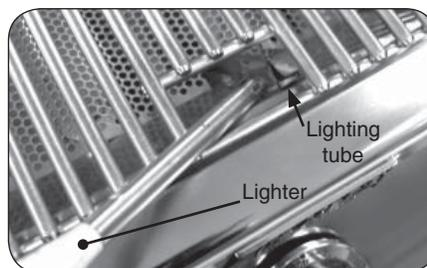

Fig. 15-2 - Manual lighting
2. Insert either a burning long-barrel butane lighter or a burning long-stem match through the cooking grid opening to the top of the lighting tube. (Fig. 15-2). For backburners, hold the flame against the surface of the backburner. For charcoal burners, hold the flame near the burner.
4. If the burner does not light, **immediately depress the knob and turn the valve to OFF**. **WAIT FIVE (5) MINUTES** before repeating steps 2 through 4 of the MANUAL LIGHTING instructions.